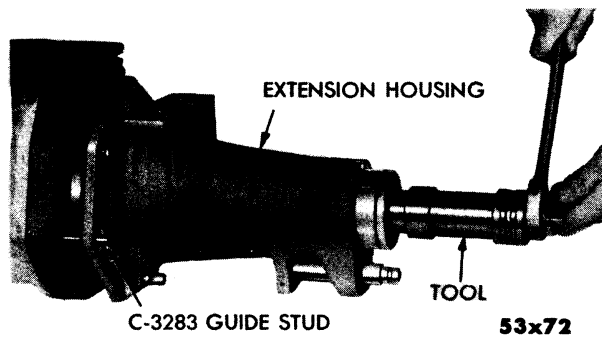

Fig. 54—Installation of Transmission Extension Housing Assembly
- (2) Guide extension housing over output shaft and on to guide studs. Using Tool C-496 with adapter Tool C-3284, press extension housing into position against output shaft support. (See Fig. 54.)
- (3) Start five of the transmission extension-to-case screws and lockwashers. Remove guide studs, Tool C-3283, and install the remaining two. Draw down evenly and tighten to 30 foot-pounds torque.
- (4) Slide hand brake assembly into position on extension housing and install pin in anchor.